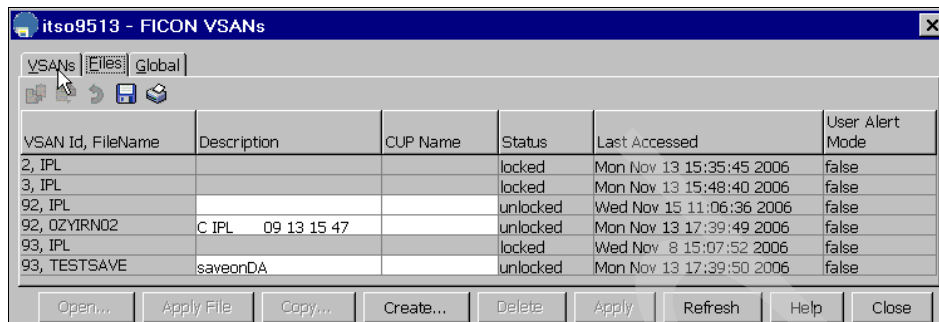

Figure 75 Accessing FICON configuration files panel 2
- Click the **Files** tab (Figure 75).